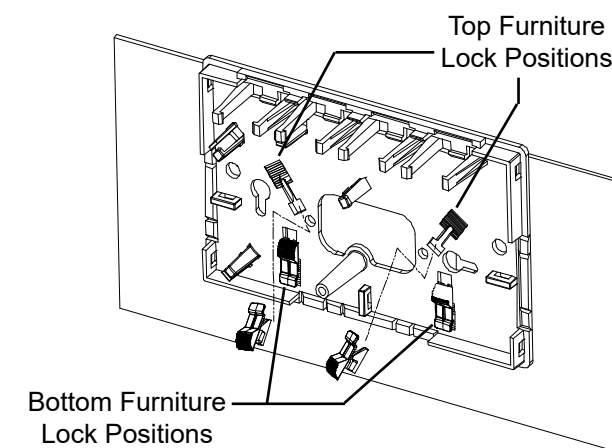

Figure 9
1. Engage furniture locks into base unit. Mount base into standard furniture opening (TIA/EIA) with the connectivity facing upwards. Ratchet furniture locks to secure base to furniture. See Figure 9.